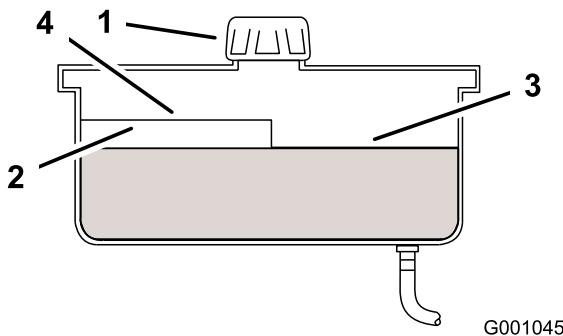

Figure 62
2. Clean the area around filler neck of hydraulic tank (Figure 62).
3. Remove the cap from the filler neck. Look inside to check if there is fluid in the reservoir (Figure 62).
**Note:** The fluid level should be to the top of the hot level of the baffle, when the fluid is hot (Figure 62).